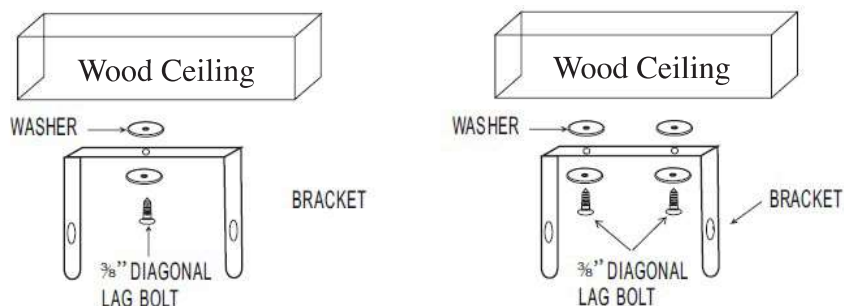

Figure 4a-single-Screw Mounting Figure 4b-Double-Screw Mounting
Refer to Figures 4a and 4b.
**NOTE:** If you want to swivel the heater either to the right or left adding a washer to both sides of the bracket is recommended. A longer lag bolt may be required to properly secure the unit. See Figure 4a.
1. To turn the unit when it has been installed with a single lag bolt (as shown in Figure 4a), simply turn the entire heater as needed. The unit cannot be turned horizontally if it has been installed with 2 lag bolts.